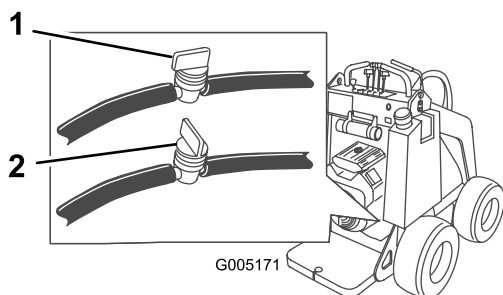

Figure 27
2. Shut off the fuel valve on the bottom of the fuel tank (Figure 27).
3. Shut off the fuel valve in the hose near the bottom of the fuel tank (Figure 27).
8. Open the fuel valve in the hose near the bottom of the fuel tank as illustrated in Figure 27.